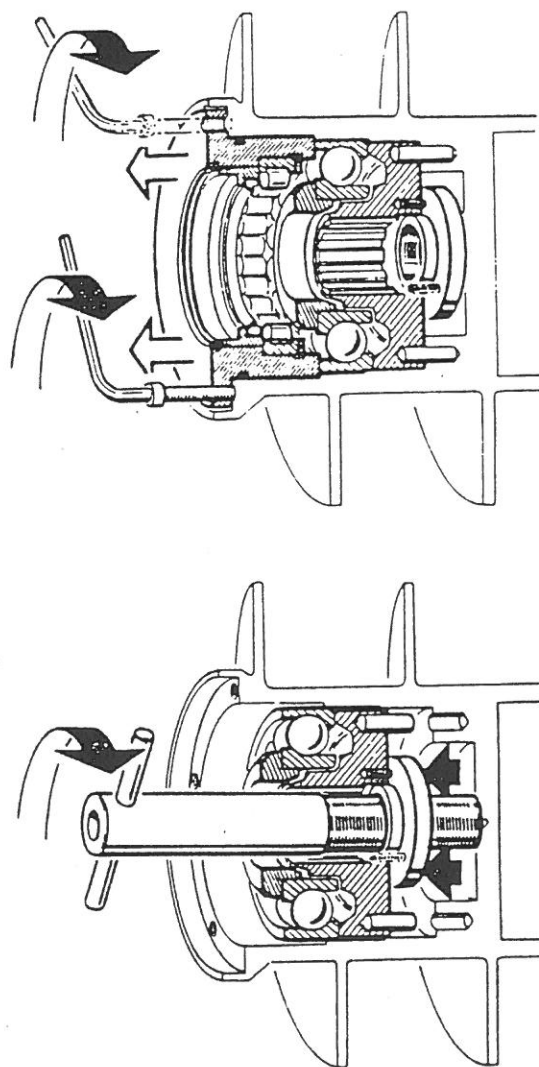

Figure 5
3. Remove the screws (38) and screw plugs (36) from the bearing holder (37). Back off the bearing holder by screwing two of the removed screws (38) into the screw plug threads, see figure 5 on this page. (Or use the T-handle screw to remove the entire assembly at one time - see item 4 below). The O-ring (39), snap ring (40), and roller bearing outer race with rollers (48) can now be removed. The snap ring (32), seal lining (34), O-ring (33), and lip seal ring (35) may also be removed for inspection.
Figure 5 below illustrates the large conveyor bearing and the procedure for removing parts.